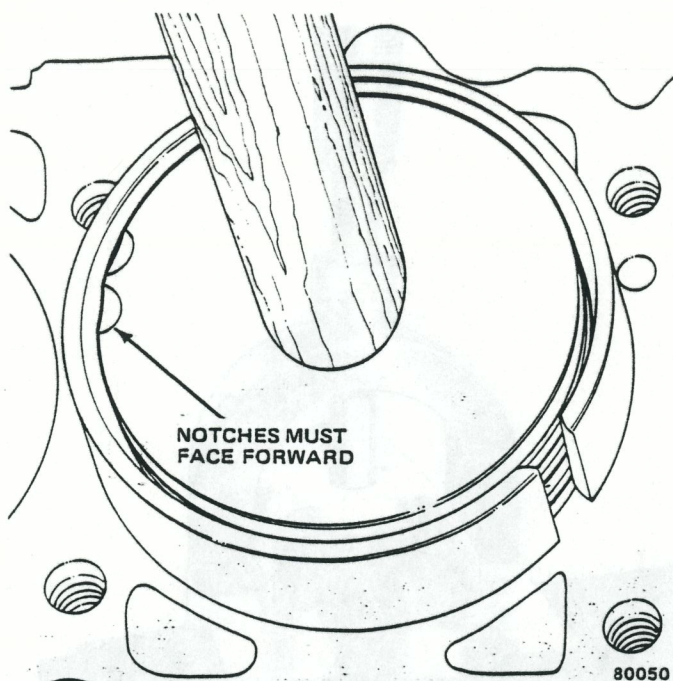

Fig. 1B-31 Installing Piston in Cylinder
(2) Position connecting rod in its original piston so that raised notch side of rod (fig. 1B-32) at bearing end is 180 degrees opposite notches in top of piston when installed.
(3) Position piston and rod on support, and insert pilot through piston and rod. Note positions of notches.
(4) Place support on arbor press, start pin into position and press on installation tool until guide bushing bottoms (fig. 1B-30).
(5) Remove installation tool and support assembly from piston and connecting rod assembly.
(6) Inspect piston pin for freedom of movement in piston bore.
(7) Install piston rings with appropriate installation tool. Refer to Piston Ring Installation for procedure.